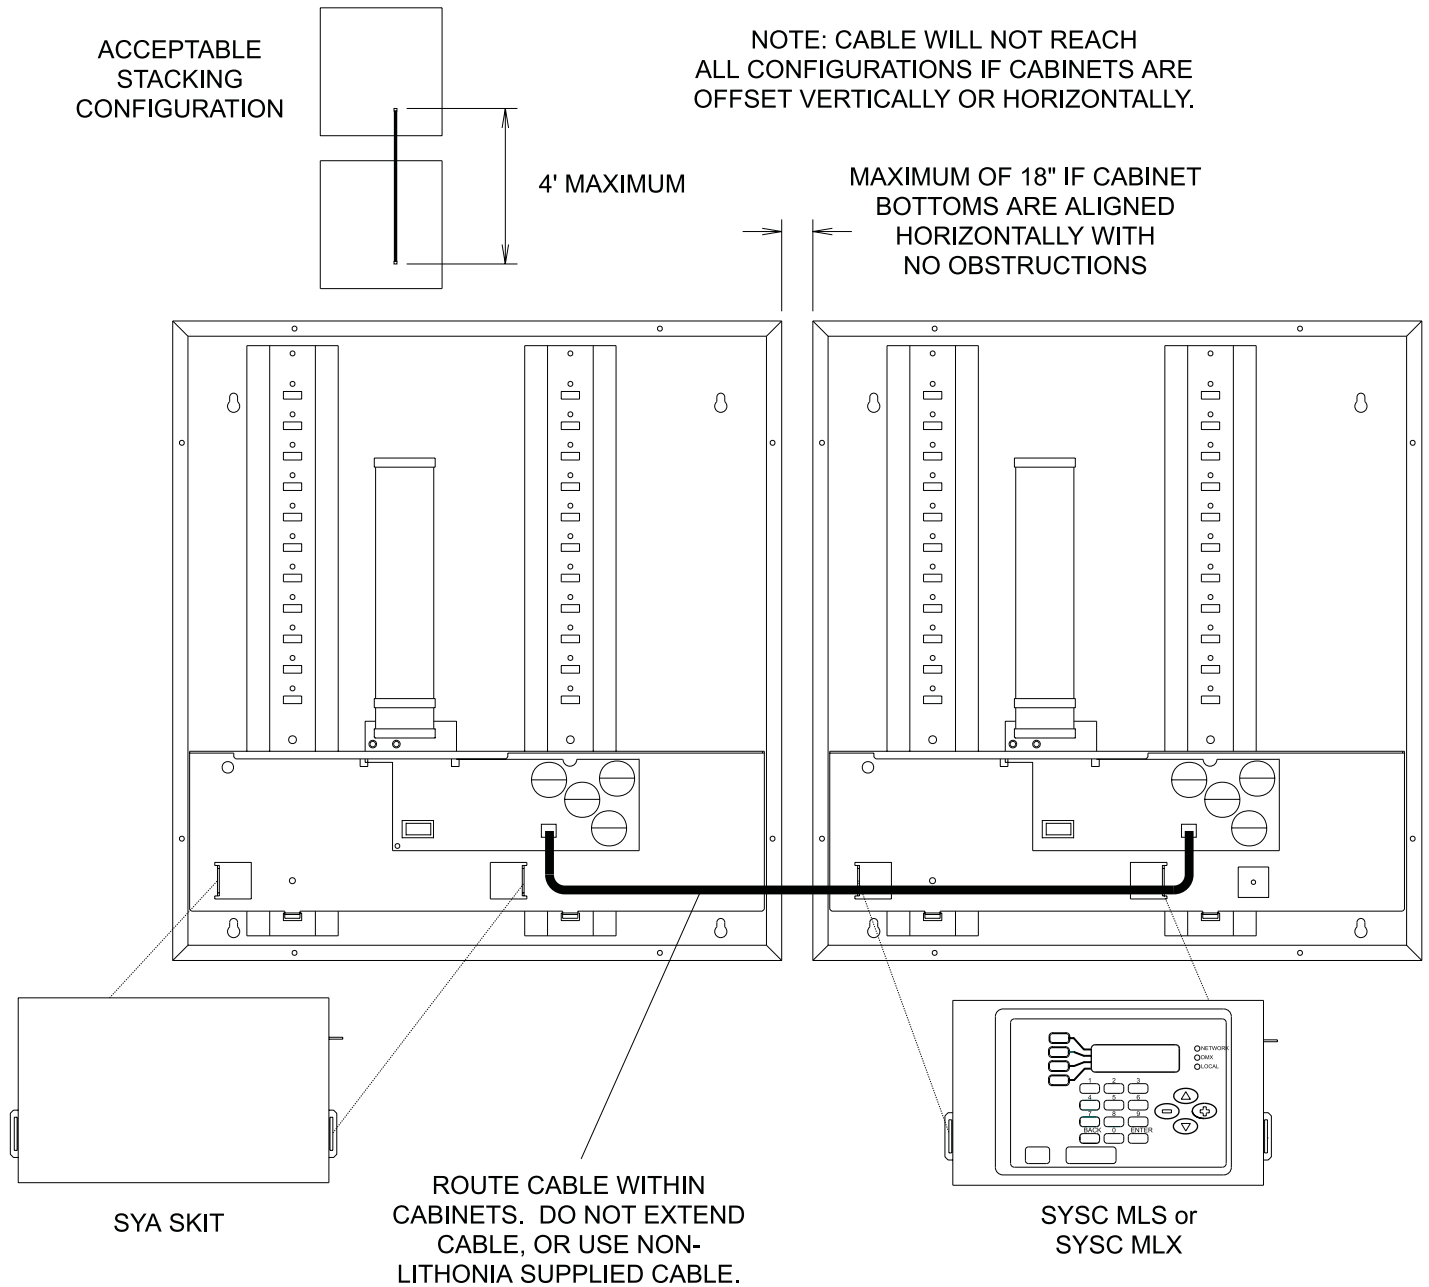

Figure 1 - Master Secondary Cable Installation
4. Review figure 1 for acceptable mounting configurations.
1. A Synergy enclosure can be applied without a controller if this cabinet is mounted directly adjacent to Synergy enclosure with a master SYSC MLS or SYSC MLX controller. In this application the Synergy controller can be used to control up to 12 power modules, or more as determined by the factory. See figure 1 for enclosure interconnection information.